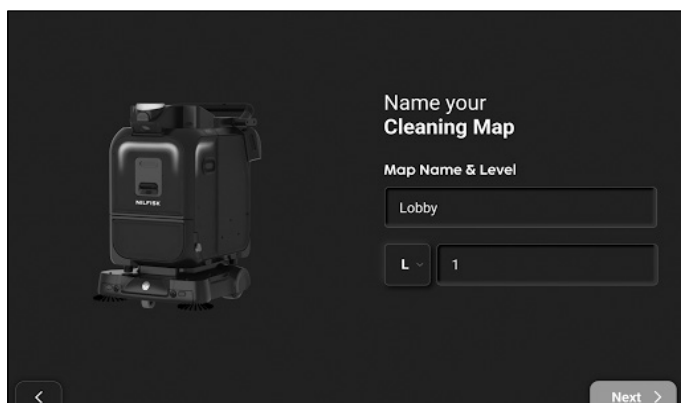

Figure 25
2. Enter the name and level of the map, then click 'Next' (Fig. 25).